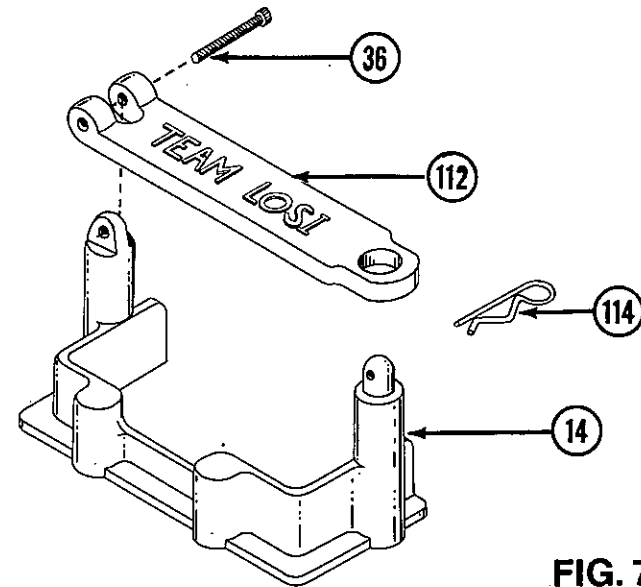

FIG. 7
10. Peel off backing from adhesive foam and apply to the indentation on the bottom side of the battery box lid (112). Fig. 7.
11. Align hinge pin holes in the battery box lid (112) with hinge pin hole in battery box (14). Fig. 7
\* NOTE: The hinge pin hole is the larger of the two holes in the posts on the battery box (14). Fig. 7.
12. Thread 4-40 x 1/2" socket head screw (36) into chamfered end of battery box lid (112) through battery box (14) post and back into battery box lid (112). Fig. 7.
13. Secure lid (112) with body clip (114). Insert into the chamfered end of hole in battery box post (14). Fig. 7.